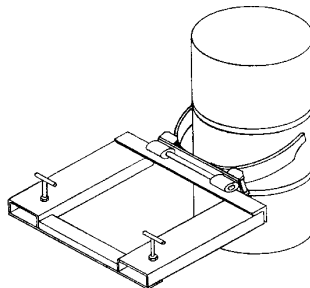

Figure 2
7. Move unit forward onto drum, lowering jaws slowly as you move. Jaws will open and close around drum. (Fig 2)